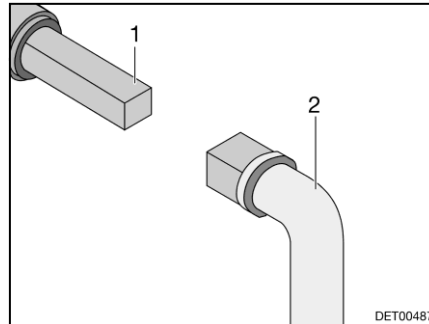

Fig. 94 Operation of the waste water tap
- Place key (Fig. 94,2) onto the square bolt (Fig. 94,1).